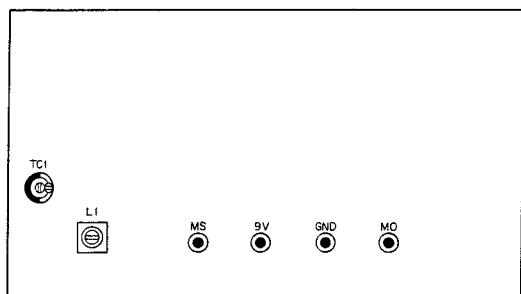

Fig. 29 MARKER unit
- 2) Set the FUNCTION switch to CAL 25 kHz and adjust TC1 in the marker unit for 100,000 Hz ± 1 Hz (refer to **Fig. 29**).